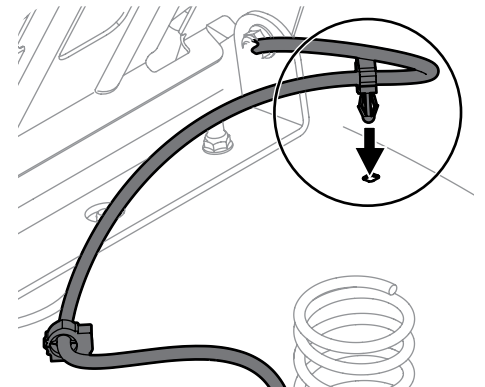

Figure 2-5
- Using the harness clips (if equipped) attached to the harness, secure the excess wiring to the fender by snapping the harness clips in place as shown in Figure 2-5.